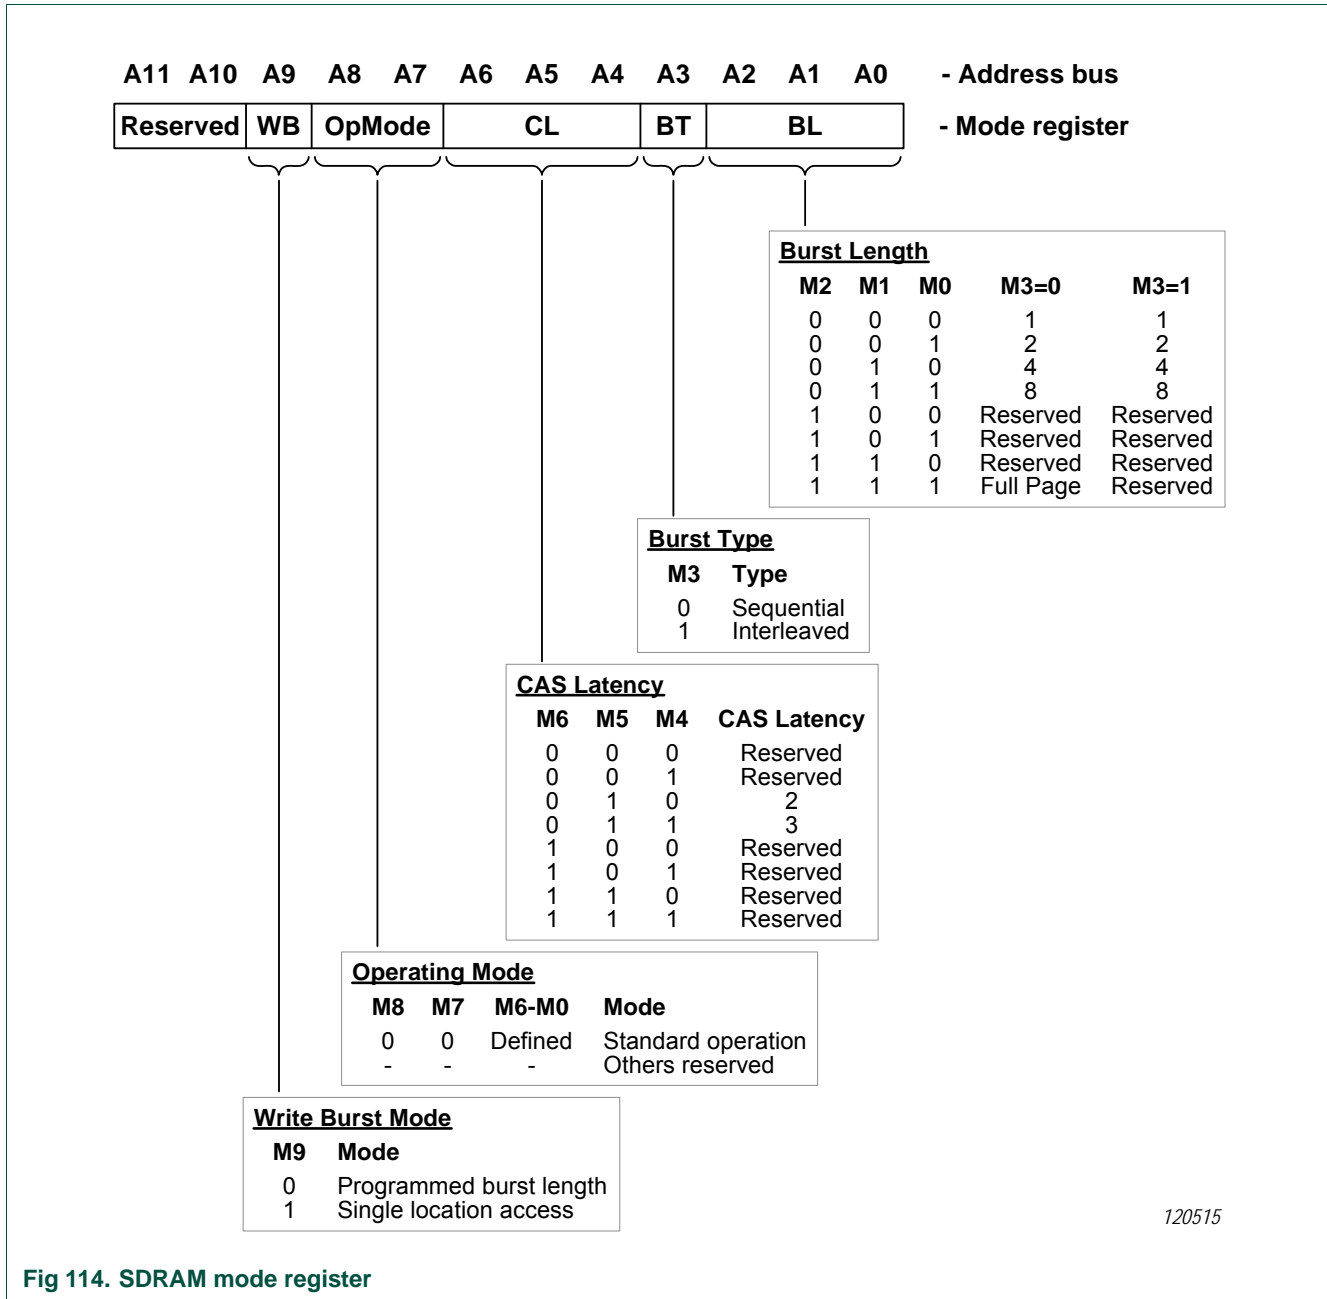

Fig 114. SDRAM mode register
When using the EMC with SDRAM, the SDRAM devices must be configured appropriately for the EMC. This includes setting up the SDRAMs for a 128-bit sequential burst. The burst configuration is done through a mode register in the SDRAM memory. Figure 114 shows the layout for a JEDEC standard SDRAM mode register.
- Mode register value, based on information from both the SDRAM data sheet, as in Figure 114, and the EMC. In this example, the value will be 0x23. This represents a programmed burst length, CAS latency of 2, sequential burst type, and a burst length of 8, as described in Section 32.5.